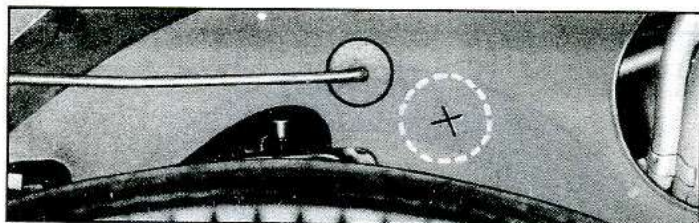

Fig. 18—Splash Shield Access Hole Location
2. Raise front of vehicle and drill a 2" diameter hole in the left front wheel splash shield (fig. 18). Then remove the upper steering coupling bolt and nut.